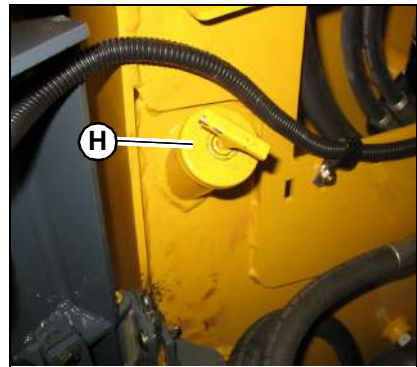

Figure 109 – Hydraulic Oil Fill
5. If the hydraulic oil level is low, remove the hydraulic tank filler cap (H, Figure 109), located in the left engine compartment wall.
4. Slowly loosen hydraulic oil filler cap (H, Figure 109).
11. Remove hydraulic oil filler cap (H, Figure 109) and fill the hydraulic oil reservoir until the oil level is correct (Y, Figure 108).